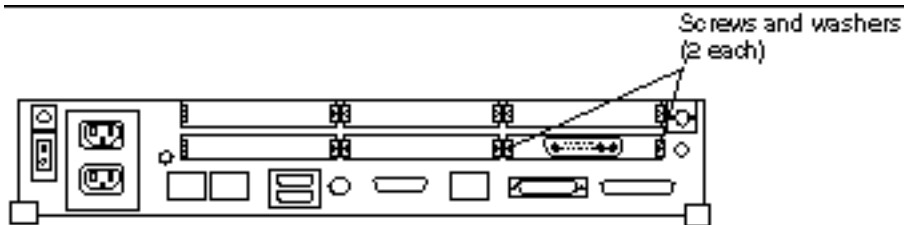

Figure 6-1 Rear Panel—Screws and Washers
- 6. Remove the screws and washers from the outside of the rear panel where the SBus card is. See Figure 6-1.**